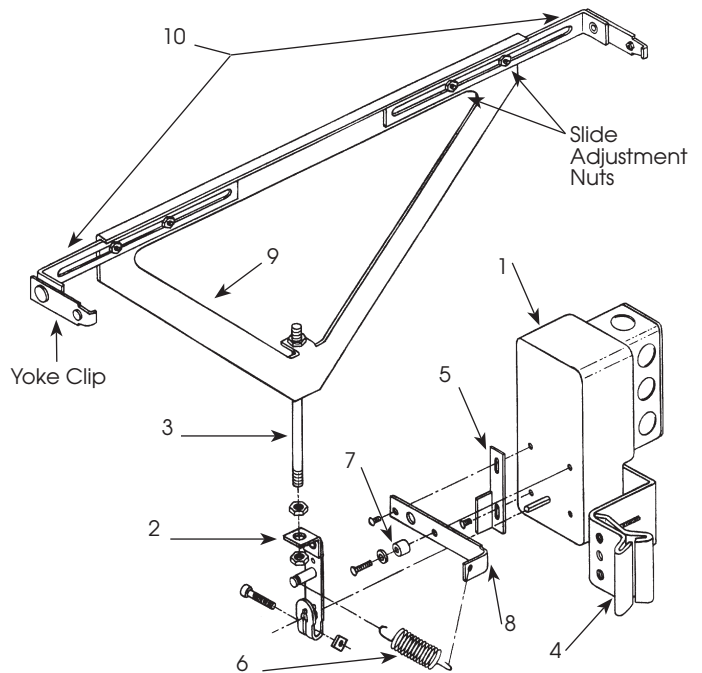

Figure 2 - Replacement Parts Diagram
2. Loosen the slide adjustment nuts on the yoke and spread the slide adjustment bars out equally to reach the tie rods so that the threaded rod is in the center of the mullion bar. (Refer to Figure 2 for parts breakdown)